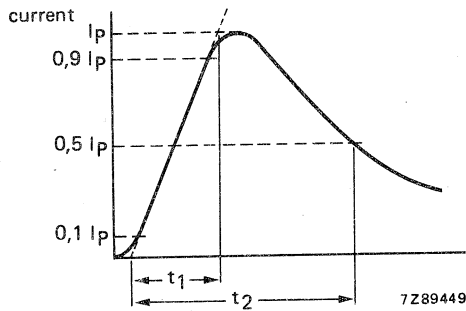

Fig. 5.
6. High energy surges are generally of longer duration. The max. energy for 1 impulse 10/1000 μ s is given as a reference for long duration impulses. This impulse can be characterized by peak current I_p and impulse width t_2 (virtual time to half I_p value, defined in IEC 60-2 section 6), see Fig. 5. If V_p is the clamping voltage corresponding to I_p , the energy absorbed in the VDR is determined by equation $E = K.V_p.I_p.t_2$; K depends on t_2 . When t_1 is 8 to 10 μ s and $t_2 = 20 \mu$ s, $K = 1$; when $t_2 = 50 \mu$ s, $K = 1,2$; when $t_2 = 100 \mu$ s, $K = 1,3$; when $t_2 = 1000 \mu$ s, $K = 1,4$.